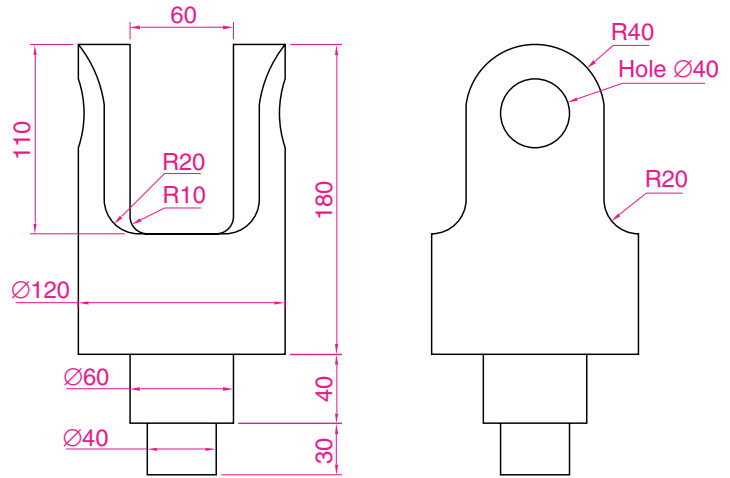

Fig. 7.3 **Front** and **end** views of the solid
2. Draw what is seen when the solid is viewed from the left-hand end of the front view. This produces an **end view**. Fig. 7.3 shows the end view alongside the front view.